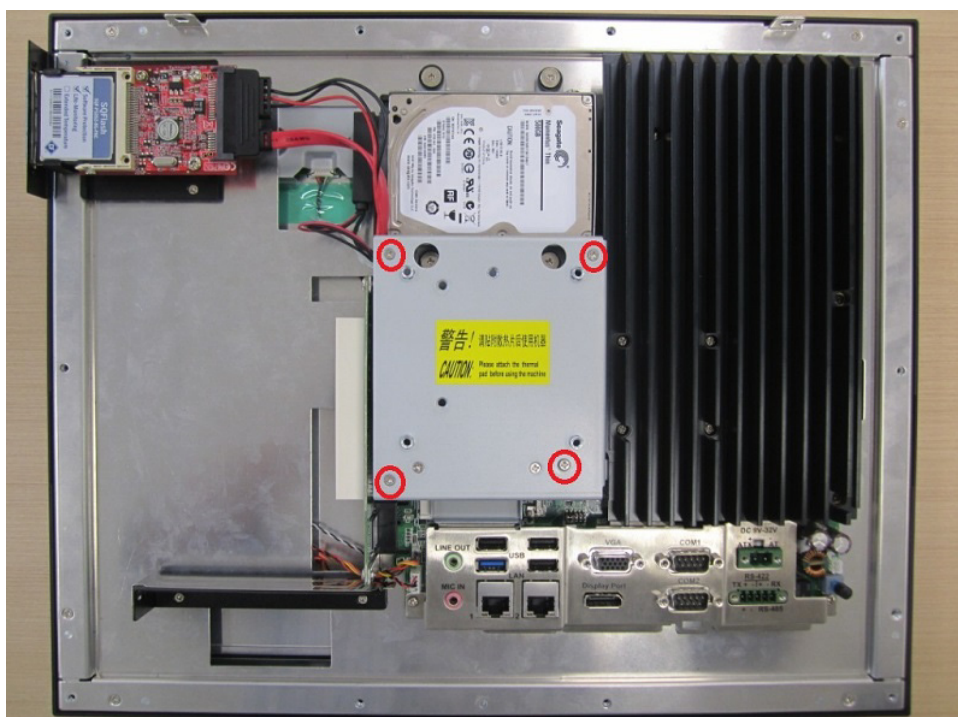

Figure 2.49
5. Follow Step 7 of Subsection A to affix the VESA mount plate (see Fig. 2.49) and replace the rear cover to complete the installation.